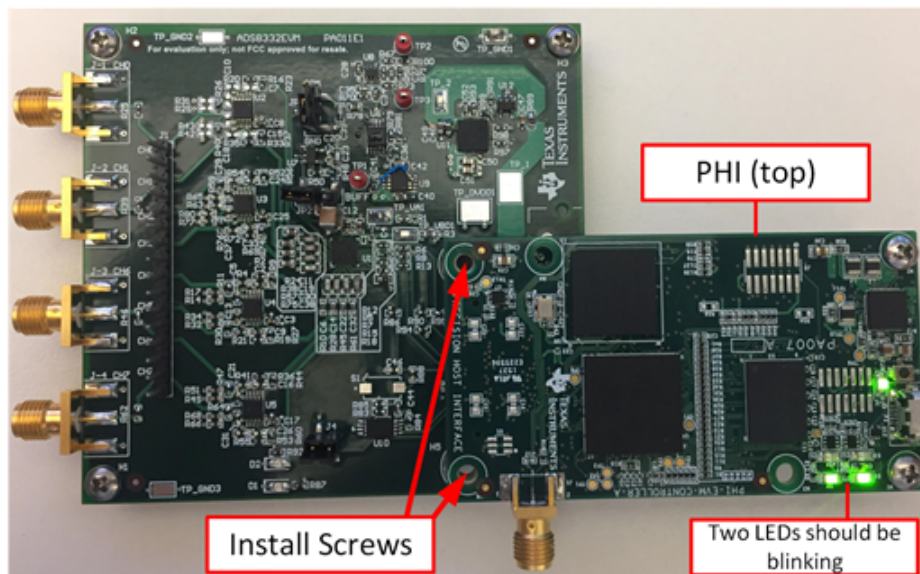

Figure 8. ADS8332EVMV2-PDK Hardware Setup and LED Indicators
1. Connect the ADS8332EVMV2 to the PHI. Install the two screws as indicated in Figure 8.
- (b) LEDs D1 and D2 on the PHI starts blinking to indicate that the PHI is booted up and communicating with the PC. The resulting LED indicators are shown in Figure 8.